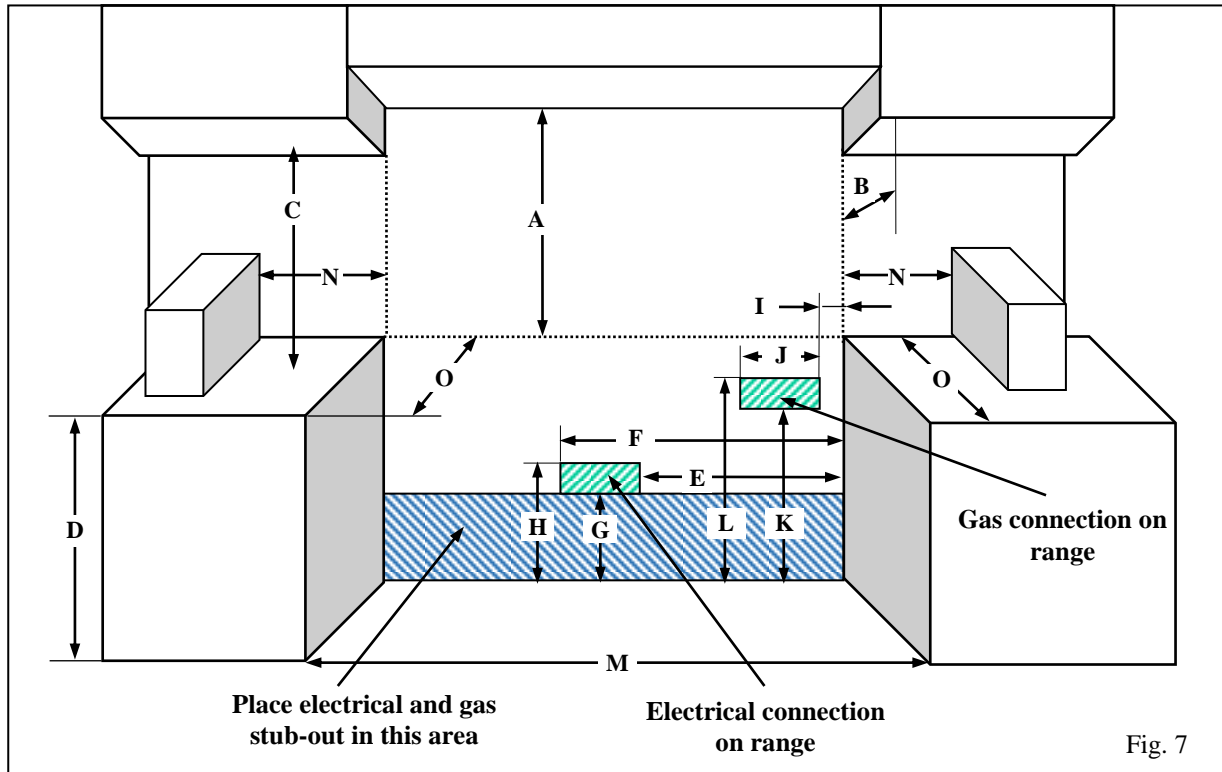

Fig. 7
- The range is a free standing unit. If the unit is to be placed next to cabinets, the clearances shown in Figure 7 are required.
Fig. 7 b
- The range is a free standing unit. If the unit is to be placed next to cabinets, the clearances shown in Figure 7 b are required.